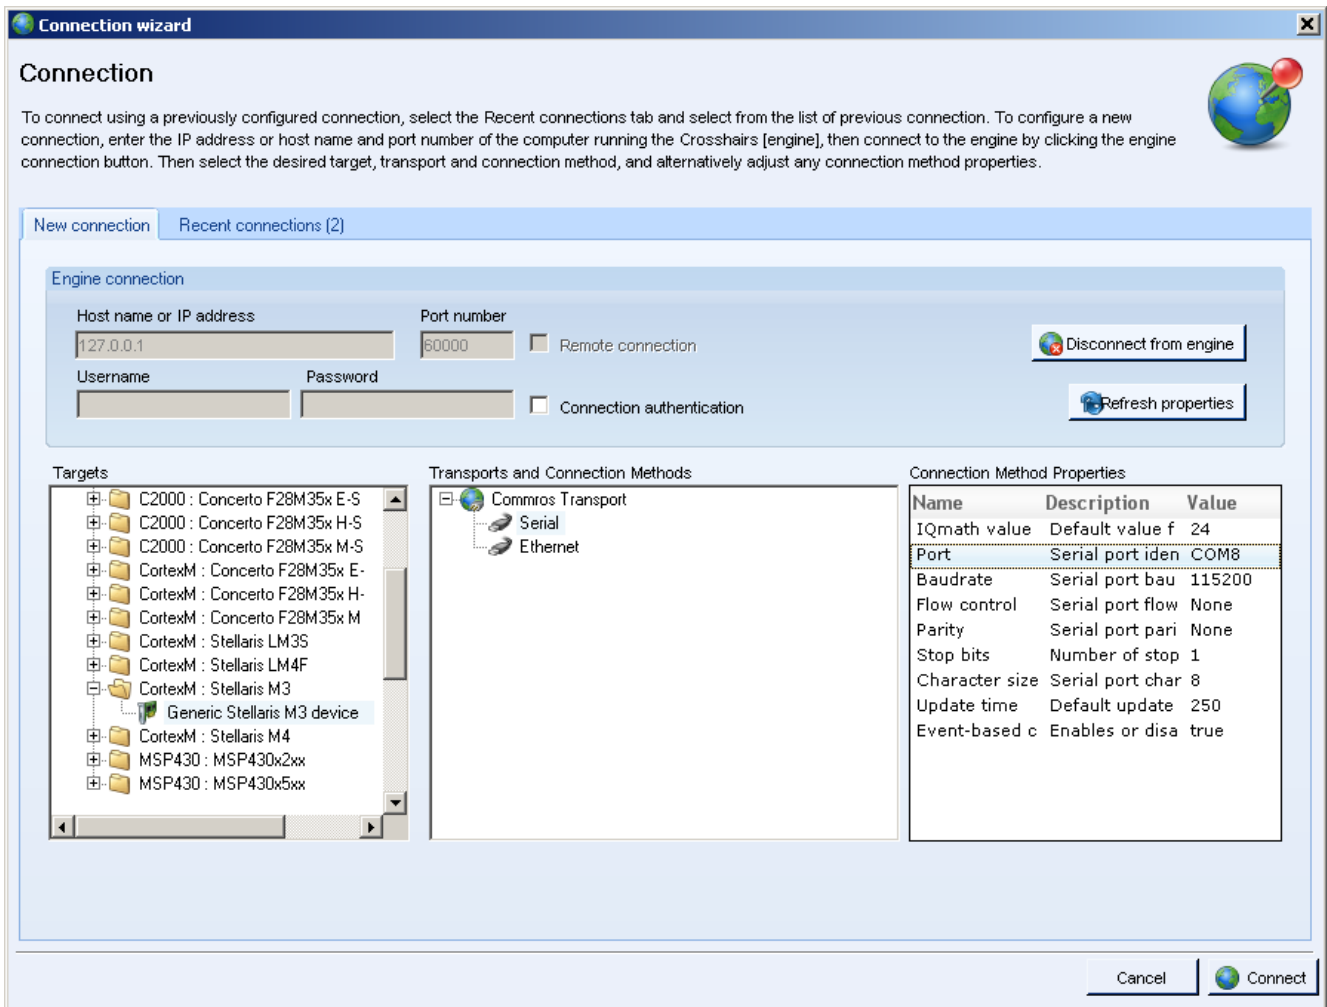

Figure 4. GUI Set-up Connections Window
- Access the Connection Wizard through the Connection menu. Click “Connect to engine” to view a list of available targets. Set up the Connection Wizard Dialog to match Figure 4.